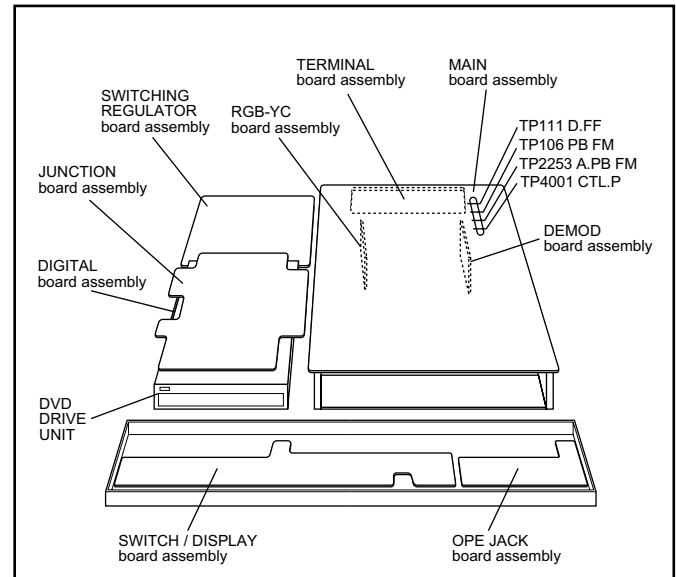

Fig.2-2a
- (1) Refer to the disassembly procedure and perform the disassembly of the major parts before removing the Mechanism assembly.
- (2) Remove the screws that fix the Mechanism, Main board assembly to the bottom chassis. If any other screws are used to fix the boards, remove them also.
- (3) Remove the combined Mechanism, DVD unit, switching regulator, digital, junction and Main board assemblies.
- (4) If any other major parts are used, remove them also.
- (5) Connect the wires and connectors of the major parts that have been removed in steps (1) to (4). (Refer to Fig. 2-2a.)
- (6) Place the combined Mechanism, Main board and other board assemblies upside down.
- (7) Insert the power cord plug into the power outlet and then proceed with the diagnostics and servicing of the board assembly.
(Refer to Fig.2-2a)